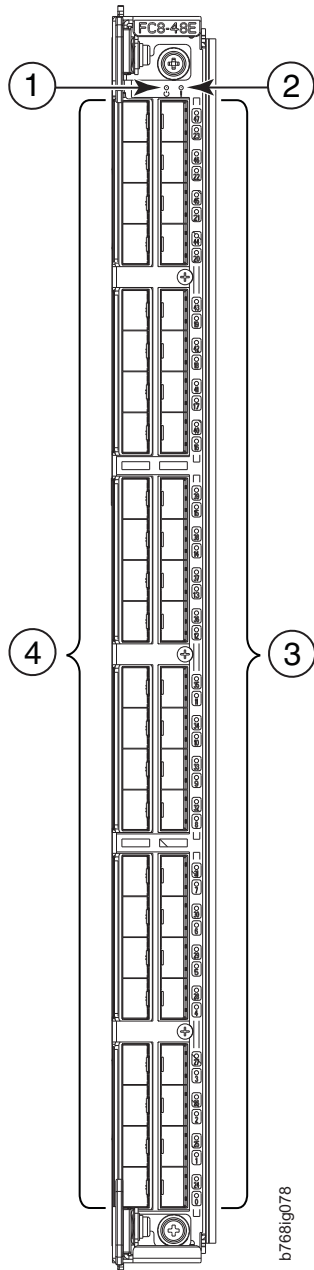

Figure 60. FC8-48E port blade
- Figure 60 on page 190 shows an FC8-48E port blade